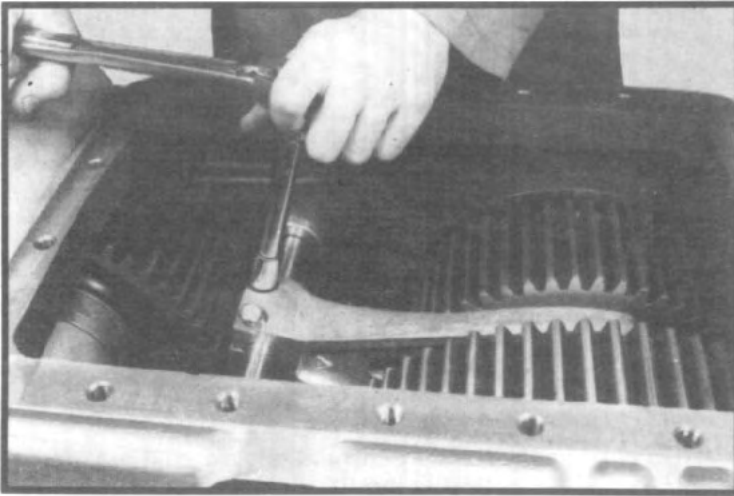

Fig. 197 (old style)
8. Place a small amount of oil on shaft and install shift fork, sliding shaft into cap on opposite side of housing. (See fig. 196.) Align two grooves with clamping screw holes and install shift fork clamping screws. Tighten shift fork clamping screws to correct torque. (See fig. 197.) Secure clamp screws with lockwire.